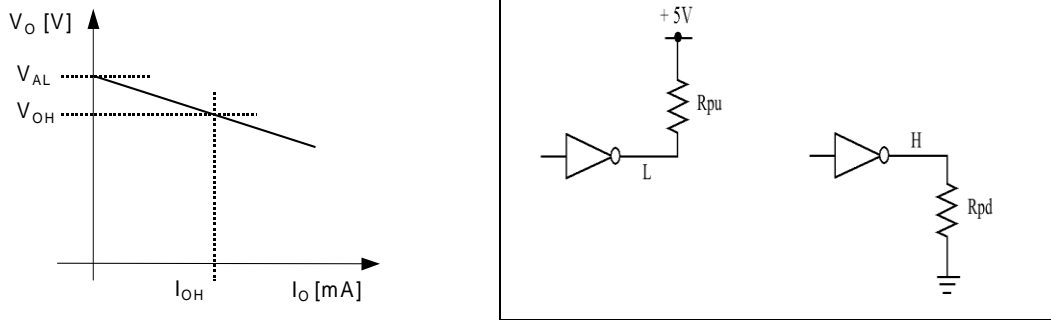

Figure 2:  $V_{OH}$  and  $I_{OH}$  definition (left) and possible connections of the load (right)
2. Refer to the original scheme of section 2.1 and Figure 2. Alternately connecting the 4 output resistors (operating on the switches S2, S3 and S4), obtain the graph  $V_o(I_o)$  for the H state [for the L state] of the gates HC04 [LS04] (interpolate the behavior from the 4 measured values). For the L state, connect the resistors to +5 V, for the H state connect them to GND (selector S1) as shown in Figure 2 (right). Calculate the current  $I_o$  as the ratio between the voltage drop on pull-up or pull-down resistance and the value of the resistance itself.